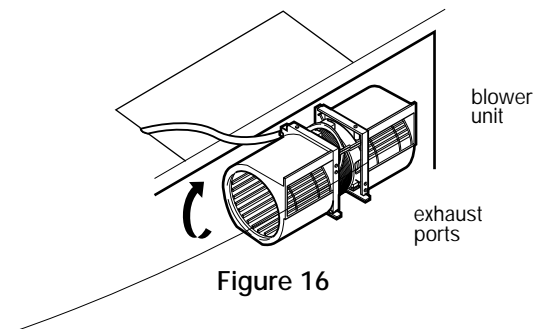

Figure 16
5. Rotate the unit so that the exhaust ports face the rear of the cabinet. See Figure 16. When you insert blower unit, blower wire must be like Figure 16.